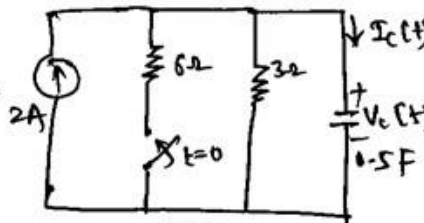

fig 6.1
22. In the network shown in fig 6.1 the switch K is changed from position a to b at $t=0$. A steady state having been established at position a, obtain the loop currents at $t=0^+$